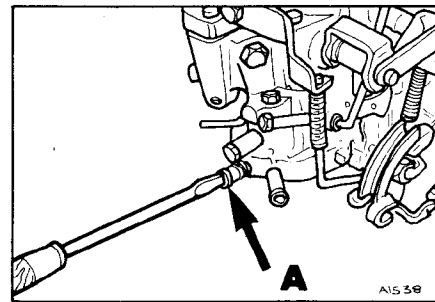

Fig. 3 Idle mixture screw
- If outside specified limit, adjust idle speed screw (A, Fig. 3). See Tamperproofing for details of access to screw.